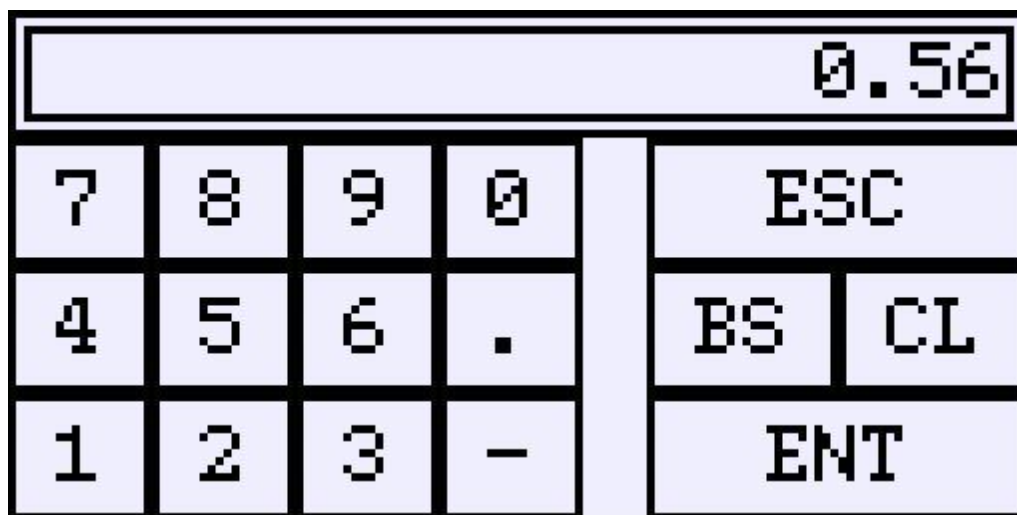

Figure 8
2. Touch the **mBar** button to popup the numeric entry keypad (Figure 8).
10. Touch the **PROCESS TIME SEC** button to popup the numeric entry keypad (Figure 8).
15. Touch the **HOLD TIME SEC** button to popup the numeric entry keypad (Figure 8).
21. Touch the **CURRENT mAmp** button to popup the numeric entry keypad (Figure 8).